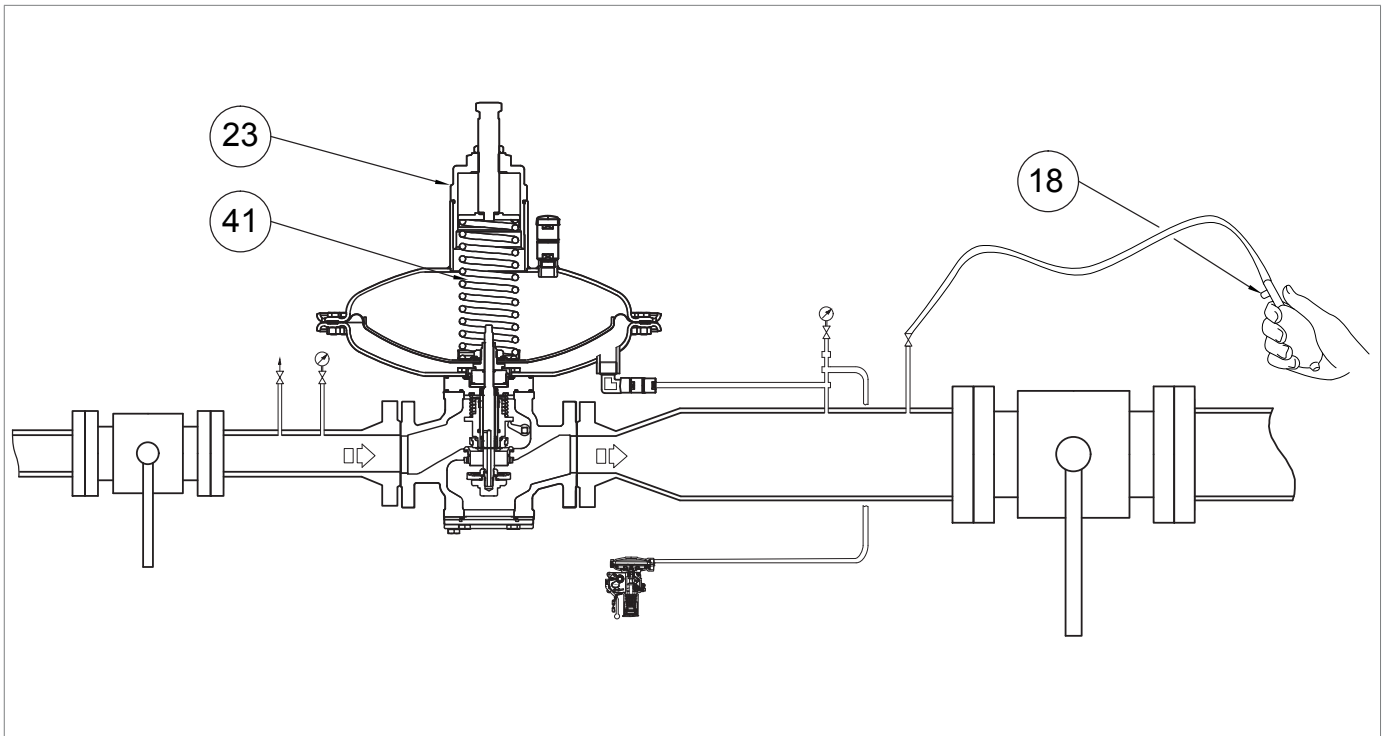

Fig. 8.24 - Pressurising with external source for incorporated SN slam-shut valve
3	<p>If necessary, remove the closing cap (fig. 8.24, ref. 23) together with the adjustment screw and remove the regulation spring (fig. 8.24, ref. 41).</p> <div style="border: 1px solid black; padding: 5px;"> <p>! NOTICE!</p> <p>Check the tripping pressure value of the slam-shut valve indicated on the downstream pressure gauge (fig. 8.19, ref. 5).</p> </div>
5	<p>After having checked that the slam-shut valve trips at the preset value, proceed as follows:</p> <ol style="list-style-type: none"> <li>Close the bleed cock (fig. 8.19, ref. 6)</li> <li>Position the regulation spring (fig. 8.24, ref. 41), the closing cap (fig. 8.24, ref. 23), and adjustment screw (fig. 8.19, ref. 3)</li> <li>Slowly open the upstream shut-off valve (V1) until the downstream pressure value (Pd) reaches the calibration value of the regulator, referring to the downstream pressure gauge (fig. 8.19, ref. 5)</li> <li>Close the upstream shut-off valve (V1)</li> <li>Slowly and partially open the bleed cock (fig. 8.19, ref. 6) to decrease the downstream pressure referring to the downstream pressure gauge (fig. 8.19, ref. 5) until it reaches the minimum pressure tripping value</li> <li>Check the minimum pressure spring for proper calibration by repeating steps 2-3-4 at least three times</li> <li>Calibrate the main regulator referring to par. 8.5</li> </ol>